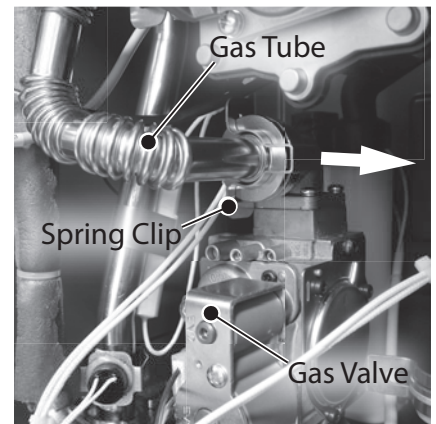

Figure 97 - Remove lower spring clip
**8** Locate the gas tube connecting the venturi assembly to the gas valve as shown in Figure 97. Note the orientation of the lower spring clip securing the gas tube to the gas valve. Remove spring clip and place it aside in a safe place for reinstallation.